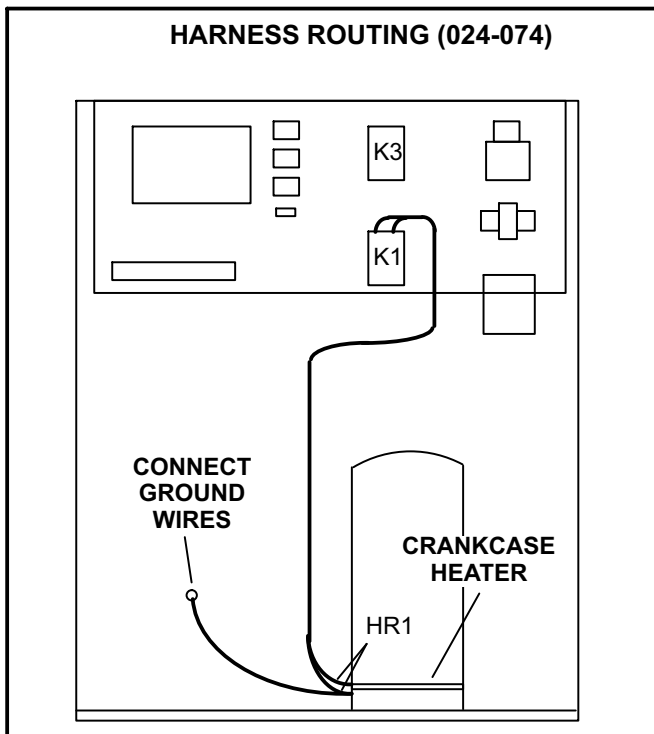
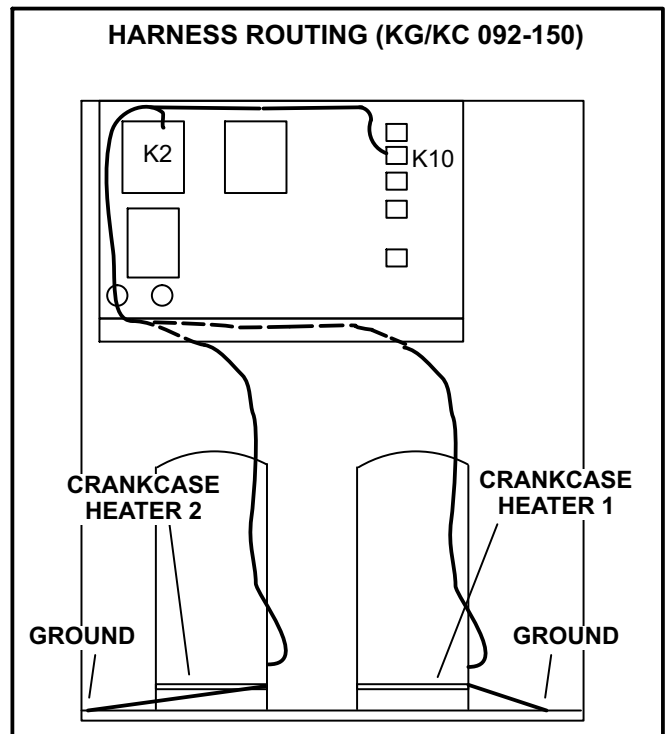
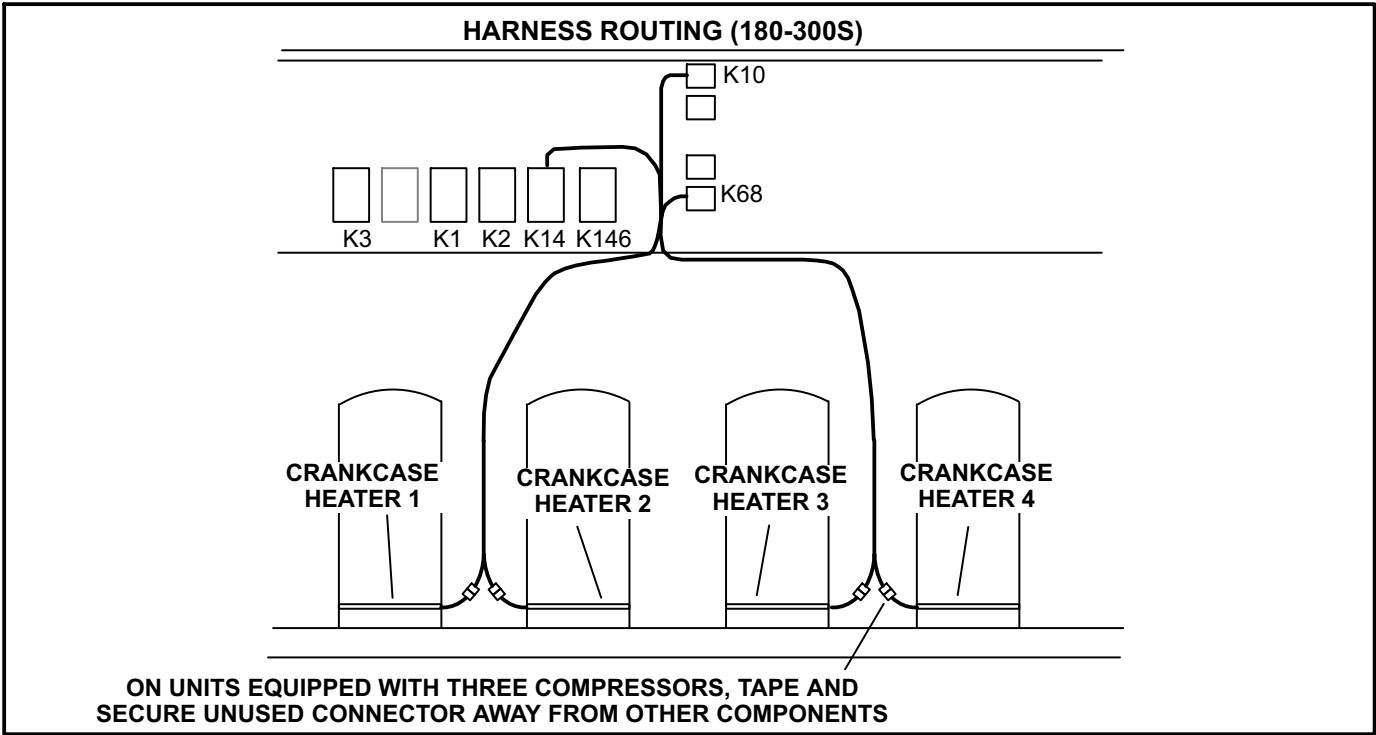

FIGURE 2
FIGURE 3
FIGURE 4
- 3- Route harness as shown in figure 2 for 024-074 units, figure 3 for KG/KC 092-150 units, and figure 4 for 180-300S units.
5- Secure crankcase heater ground wires using screw(s) and washer(s) provided in kit. See figure 2